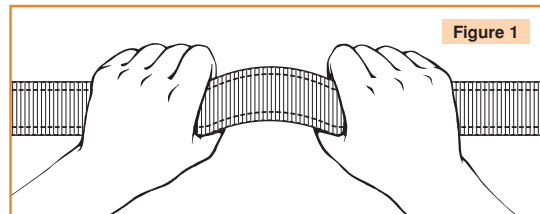

Figure 1
- 1. Inspect stitching and webbing.** Check stitching for broken, burned, cut, or pulled stitches. Broken strands appear as tufts on the surface. To inspect, hold the webbing with your hands six to eight inches apart. Bend the webbing in an inverted "U" to cause surface tension, exposing problem areas. Inspect all web areas. Damage from cuts, abrasions, corrosives, heat, or chemicals should be apparent. (See Fig. 1)
For stitching-attachment points, check that stitching is not broken, burned, cut, or pulled. For riveted attachment points, check all rivets for tightness, especially those at D-ring wear pads. Badly pitted rivets indicate chemical corrosion, and equipment should be replaced immediately. (See Fig. 1)